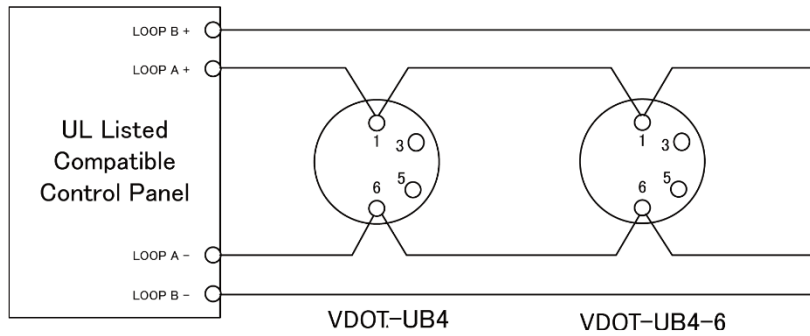
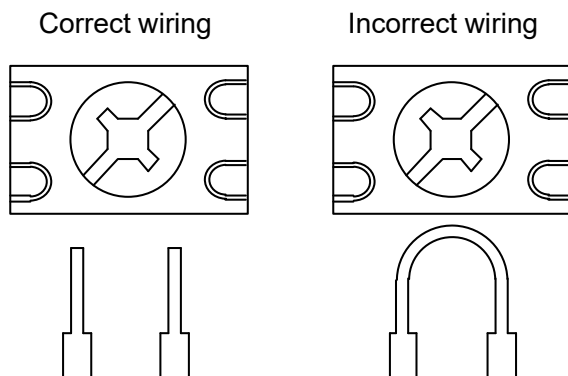

Figure 9: Wiring diagram for VDOT-UB4 and VDOT-UB4-6
Figure 10: Correct and incorrect wiring method
1. Pass the field wiring through the rear center cable opening in the mounting base. Install the base to the electrical box with screws via the base mounting holes. Connect the field wiring to the base terminals, as detailed in Figure 9,. Do not use looped wire under terminals (See Figure 10).